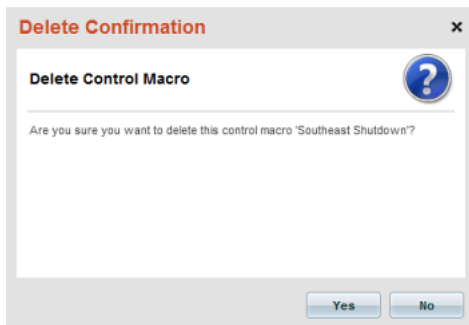

FIG. 289 Delete Confirmation dialog - Control Macro
- The program will prompt you to verify this action before the control macro is deleted from the system (FIG. 289).